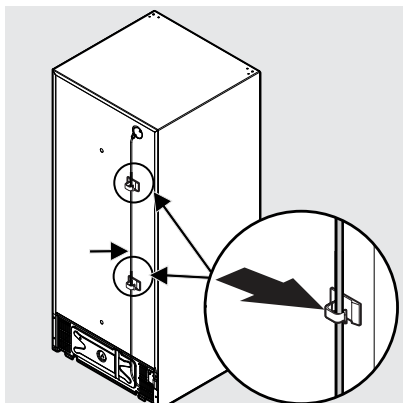

Figure 21
20. Secure the plastic water tubing to the rear of the cabinet with two plastic clamps. See Figure 21.